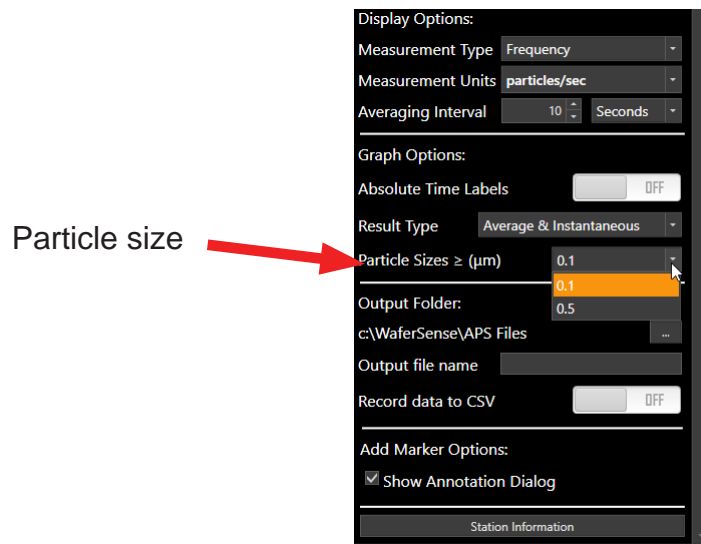

Figure 3.16: Selecting the Particle Size for the Graph
- In the **Graph Options**, choose the particle size from the **Particle Sizes** list drop down menu (see Figure 3.16).